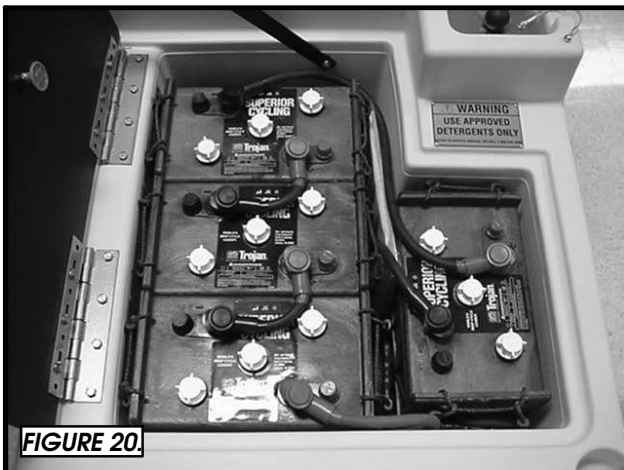

FIGURE 20.
3. HINGE OPEN THE BATTERY ACCESS PANEL TO EXPOSE THE BATTERIES. (SEE FIGURE 20.)